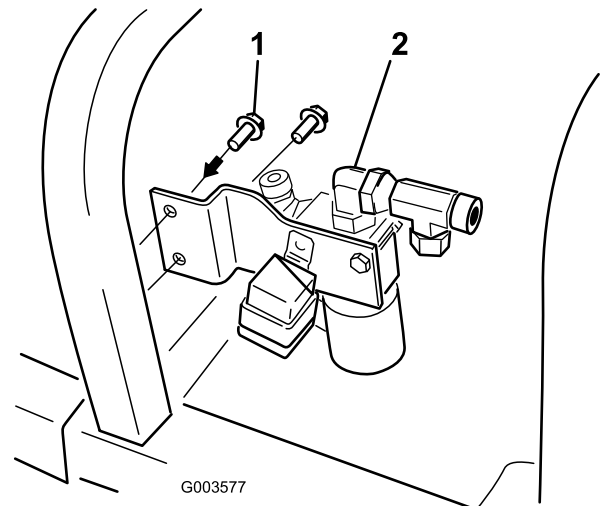

Figure 13
7. Install the valve bracket to the machine frame with 2 thread-forming screws (9/32 x 3/4 inch); refer to Figure 13.